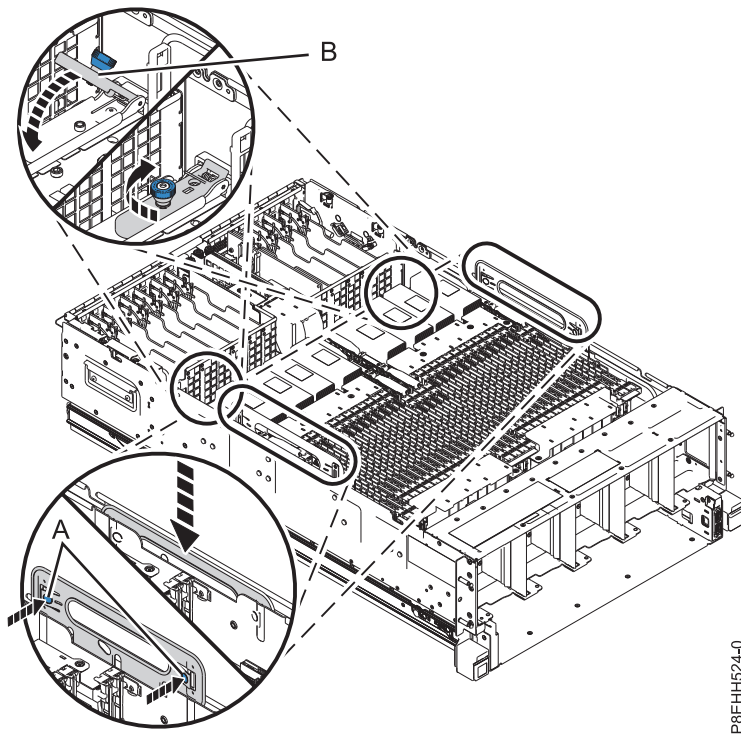

Figure 19. Tightening thumbscrews and lowering handles
- b. Lower the handles (A). See Figure 19.
- c. Lower the hinged brackets (B) and tighten the thumbscrews.